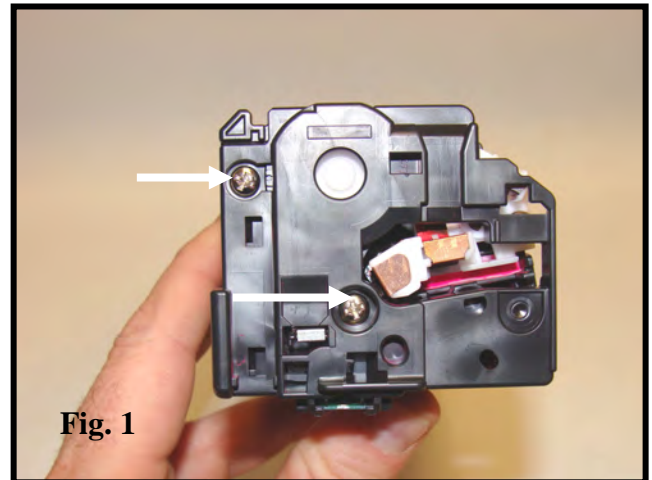

Fig. 1
1. Remove two screws from the contact side end cap (Fig. 1).